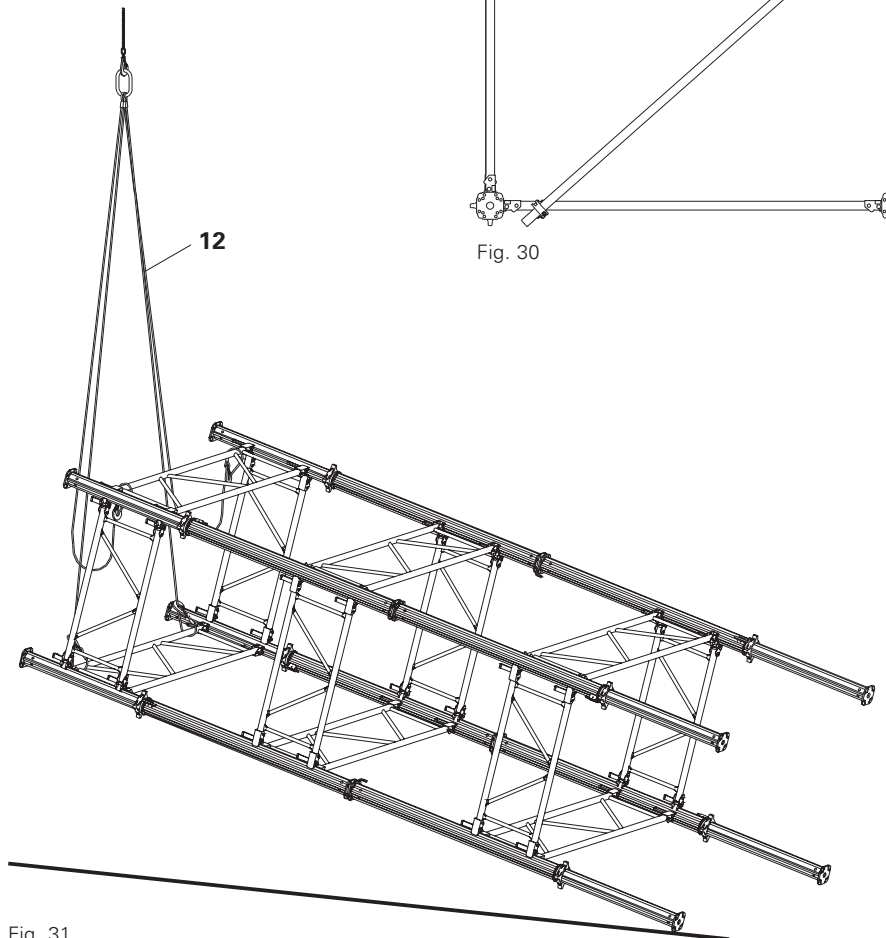

Fig. 31
1. Attach 4-sling lifting gear (12) to two frames facing each other of the top row of frames.
6. Detach lifting gear. (Fig. 31)